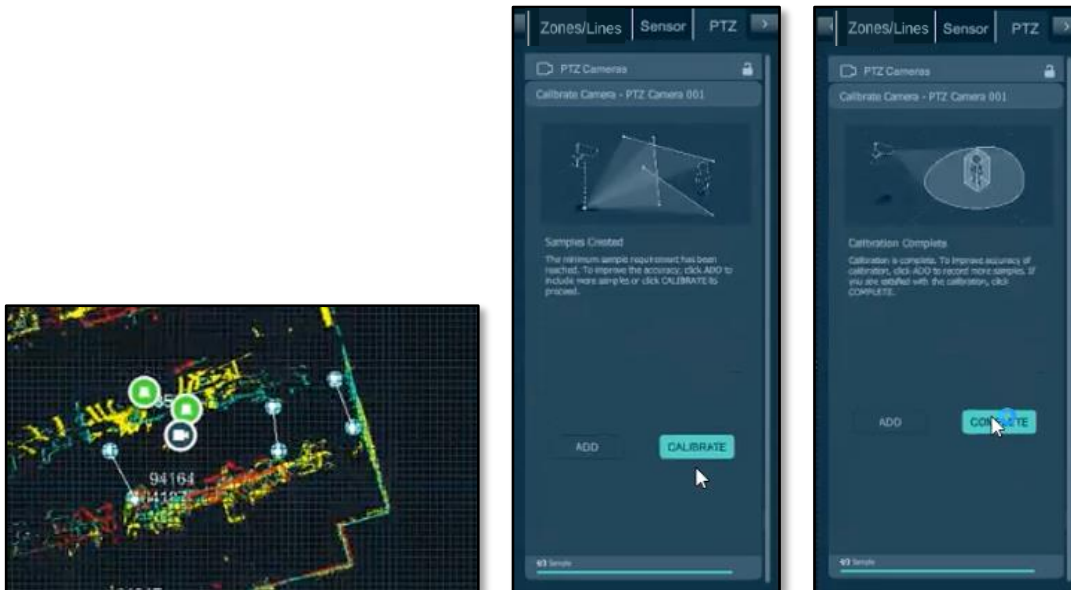

Figure 75. PTZ Camera Calibration: Calibrate All Points
- In Configuration panel, click **CALIBRATE** button. Click **COMPLETE**. See Figure 75. PTZ Camera Calibration: Calibrate All Points.